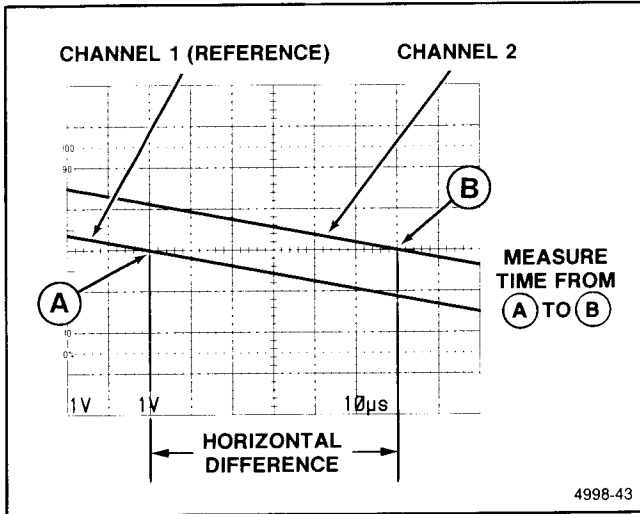
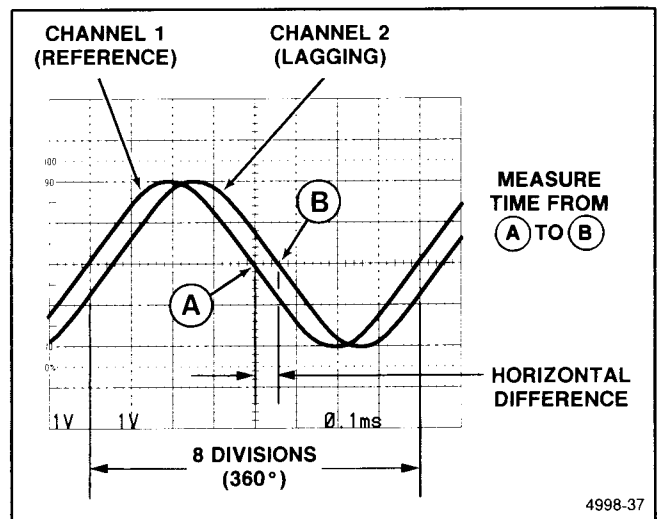

Figure 6-25. High-resolution phase difference.
Figure 6-24. Phase difference.
9. Position the displays and adjust the SEC/DIV Variable control so that one reference-signal cycle occupies exactly eight horizontal graticule divisions at the 50% rise-time points (see Figure 6-24). Each division of the graticule now represents 45° of the cycle ($360^\circ \div 8$ divisions), and the horizontal graticule calibration can be stated as 45° per division.
EXAMPLE: The horizontal difference is 0.6 division with a graticule calibration of 45° per division as shown in Figure 6-24.
EXAMPLE: If the sweep speed were increased 10 times with the magnifier (X10 Magnifier out), the magnified horizontal graticule calibration would be $45^\circ/\text{division}$ divided by 10 (or $4.5^\circ/\text{division}$). Figure 6-25 shows the same signals illustrated in Figure 6-24, but magnifying the displays results in a horizontal difference of 6 divisions between the two signals.